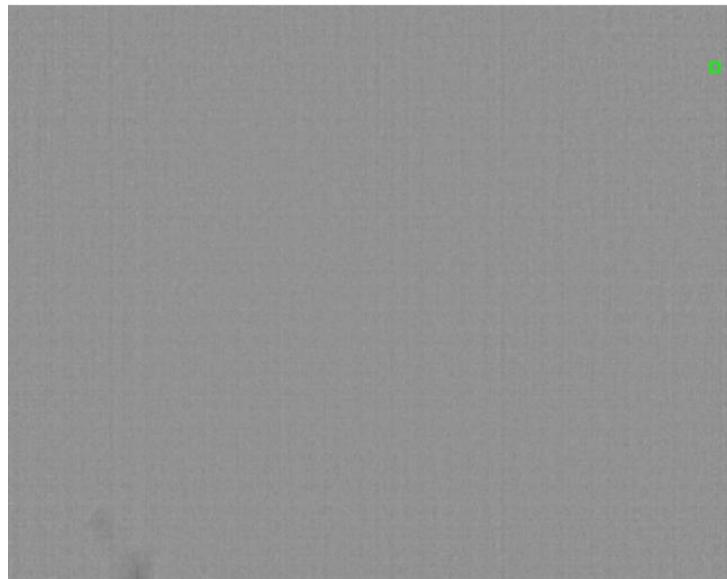

Figure 30: “FFC Desired” Symbol (Factory-Default)
- FFC Desired: By factory default, the symbol shown in Figure 30 is displayed whenever the “FFC Desired” flag is set. (See Section 6.12.3 and Section 7.6.)